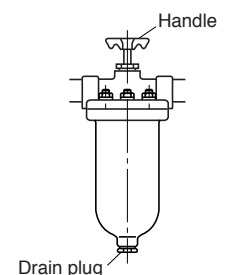

Fig. 12
2. Oil filter (Fig. 12) is equipped on piping of forced lubrication type. Turn a handle on the oil filter and take out clogging. At the beginning of operation, clean the filter once a day.